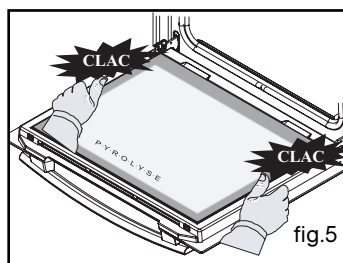

fig.5
• **Multi-purpose 45 mm dish (fig.5)**
- Clip in your last glass sheet by placing the indication "PYROLYSIS" so that it faces you (fig.5).